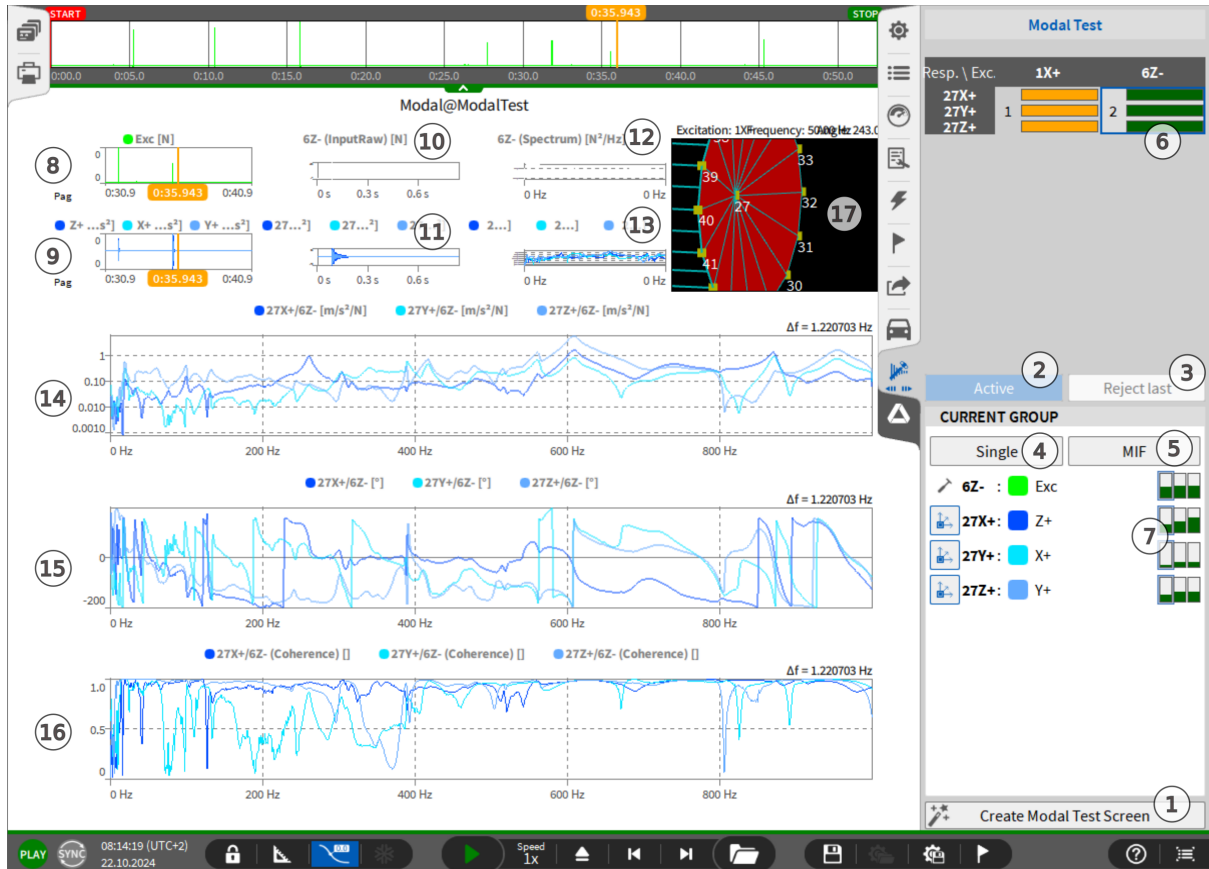

Fig. 3.18: Modal Test Screen Overview
On the measurement screen, the modal test screen can be added for visualization, recording and navigation of the modal test. To create this screen click on the “Create Modal Screen” button ①, see Fig. 3.18. This screen always displays the data of the active excitation group ⑥. The following items ① - ⑰ can be found in Fig. 3.18.
The data displayed in the modal test screen instruments can be further customized. For example the bode diagram can be changed to show real part of the vibration instead of the amplitude. To revert to the default template, just click again on the "Create Modal Test Screen" button ① in Fig. 3.18, which adds a new screen based on the default modal test screen template. To further edit the modal test screen, the instrument group can be dismantled and changed to the preferred instruments. Click on the modal test group followed by clicking on dismantle ② in the properties.